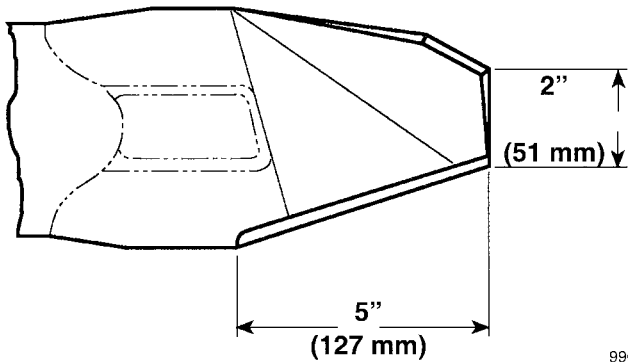

Figure 29
**Note:** Blade should not be ground more than 5 inches (127 mm) from outside ends and no less than 2 inches (51 mm) from trailing edge (Fig. 29).